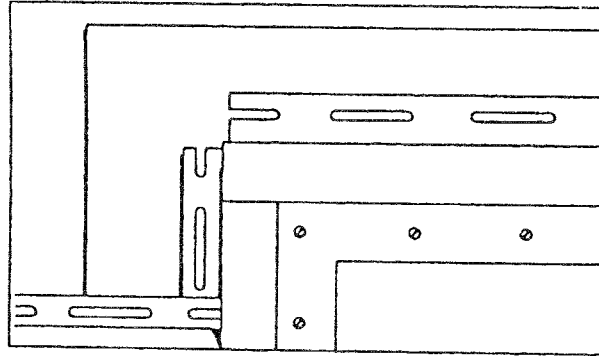

FIG. 3
- B. If WHWM is installed as an alternative to J-Channel, the MHWM may be secured by installing screws through the window and the MHWM lip into wall framing. (See Figure 3)